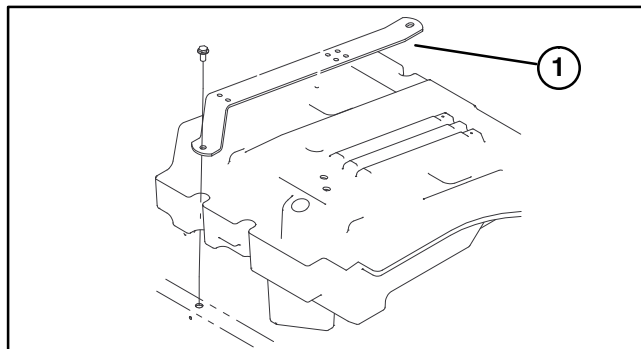

Figure 4
INSTALL SEAT (Fig. 4 - 7)
- Remove capscrews securing seat mounting straps to traction unit frame (Fig. 4).